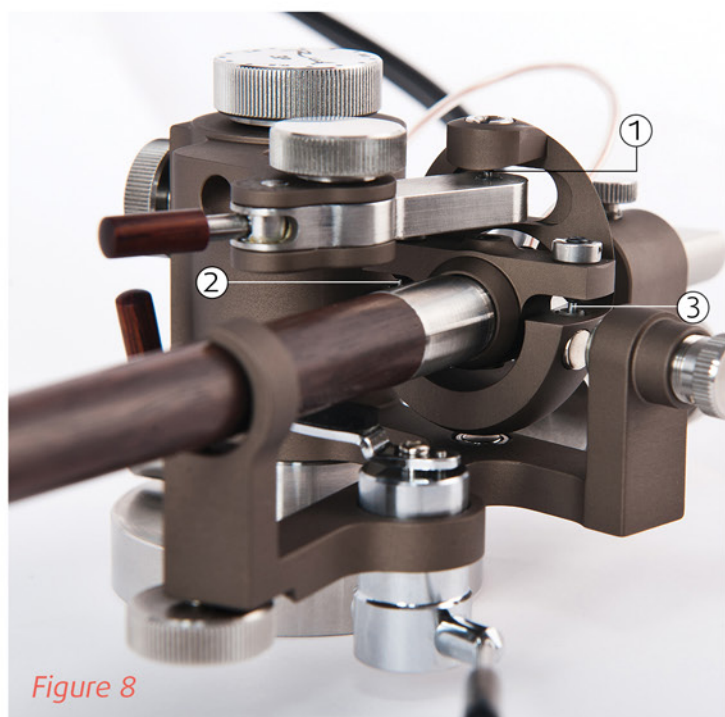

Figure 8
Before using your tonearm (making adjustments or playing LPs) make sure that bearings of vertical and horizontal axis – ①, ② and ③ – are in correct position (Figure 8).